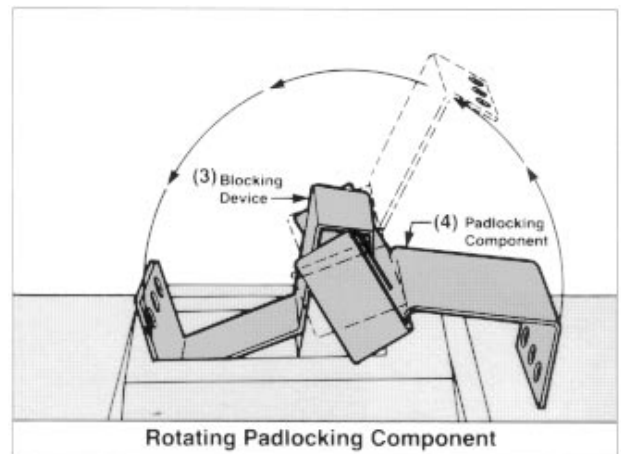

Figure 3
- A. Slide the retaining slots of the padlocking component (4) over the handle blocking device retaining screws. Position the padlocking component at the angle shown in Figure 3.